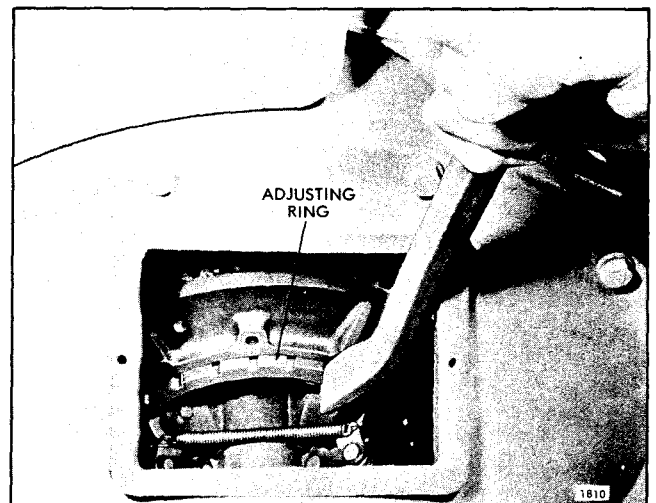
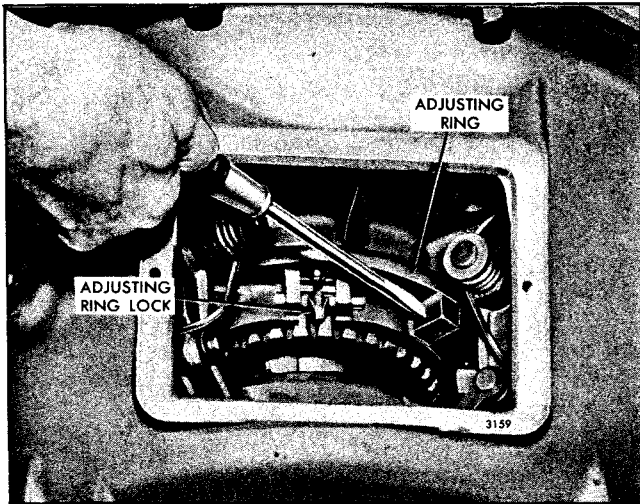
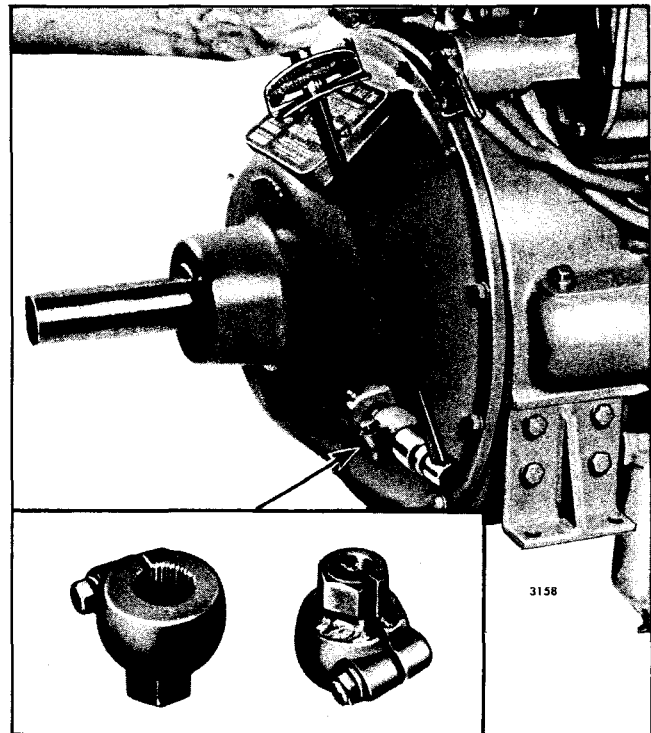

Fig. 9 - Power Take-Off Showing Typical 8" and 11-1/2" Diameter Clutch Adjustment Ring
Fig. 10 - Power Take-Off Assembly Showing 14" Diameter Clutch Adjustment Ring
Fig. 11 - Power Take-Off Clutch Adjustment Check with Torque Wrench and Adaptor
4. On the 8" and 11-1/2" diameter clutches, remove the clutch adjusting ring spring lock screw and lock from the inner clutch pressure plate and adjusting ring. Then, while holding the clutch drive shaft to prevent the clutch from turning, turn the clutch adjusting ring counterclockwise as shown in Fig. 9 and tighten the clutch until the desired pressure on the outer end of the hand lever, or at the clutch release shaft (Fig. 11) is obtained, as shown in the table.
5. On the 14" diameter single and double plate clutches, raise the end of the adjusting ring lock up out of the splined groove in the hub of the outer clutch pressure plate. Then, while holding the clutch drive shaft to prevent the clutch from turning, turn the clutch adjusting ring clockwise as shown in Fig. 10 and tighten the clutch until the desired pressure on the outer end of the hand lever, or at the clutch release shaft (Fig. 11), is obtained as shown in the table.
However, a more accurate method of checking the clutch adjustment is with a torque wrench as shown in Fig. 11.
To fabricate an adaptor, saw the serrated end off of a clutch hand lever and weld a 1-1/8" nut (across the hex) on it as shown in Fig. 11. Then saw a slot through the nut.